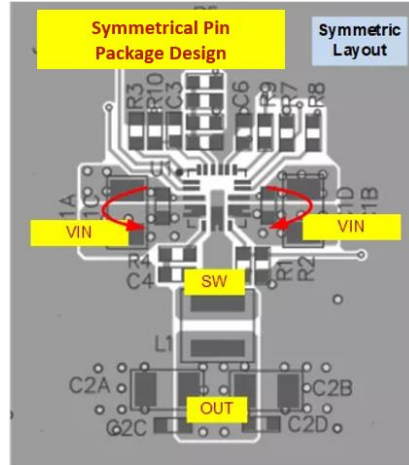

Figure 4: Symmetrical Pin Package Layout
2. Symmetrical pin package design: The MPQ4436A is designed in a symmetrical pin package, with a reasonable distribution for the high-frequency loop,  $V_{IN}$ , and GND. The magnetic field can be reduced by placing the high-frequency capacitors symmetrically. Figure 4 shows the symmetrical package layout for the  $V_{IN}$ , SW, and OUT pins.